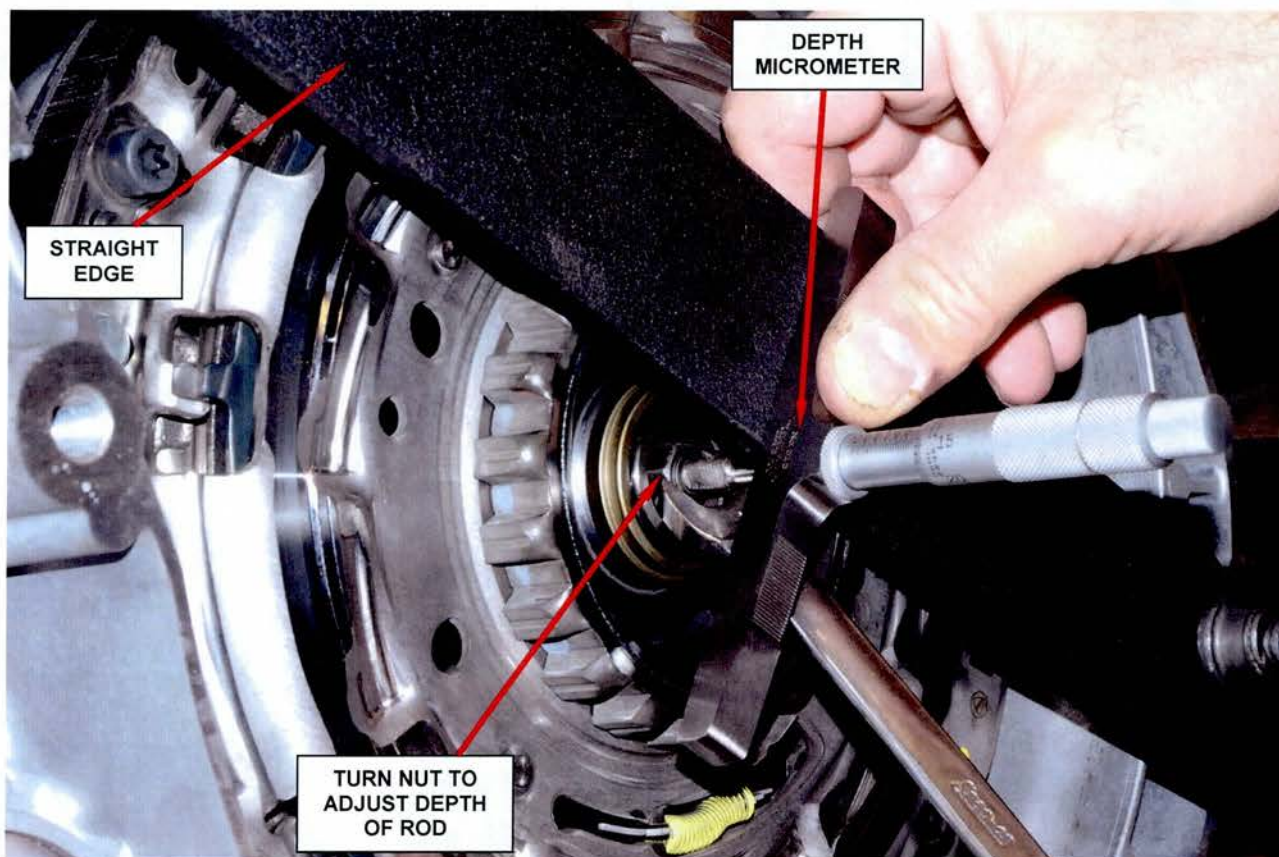

Figure 26 - Adjust the Slave Cylinder Rod Depth to the Original Depth Measured in Step 40
60. Measure the clutch slave cylinder rod depth. Adjust the slave cylinder rod depth (by tightening, to move the shaft towards the bellhousing face, or loosening, to move the shaft away from the bellhousing face, the bearing support nut) to the original depth measured in Step 40 of this procedure (Figure 26).